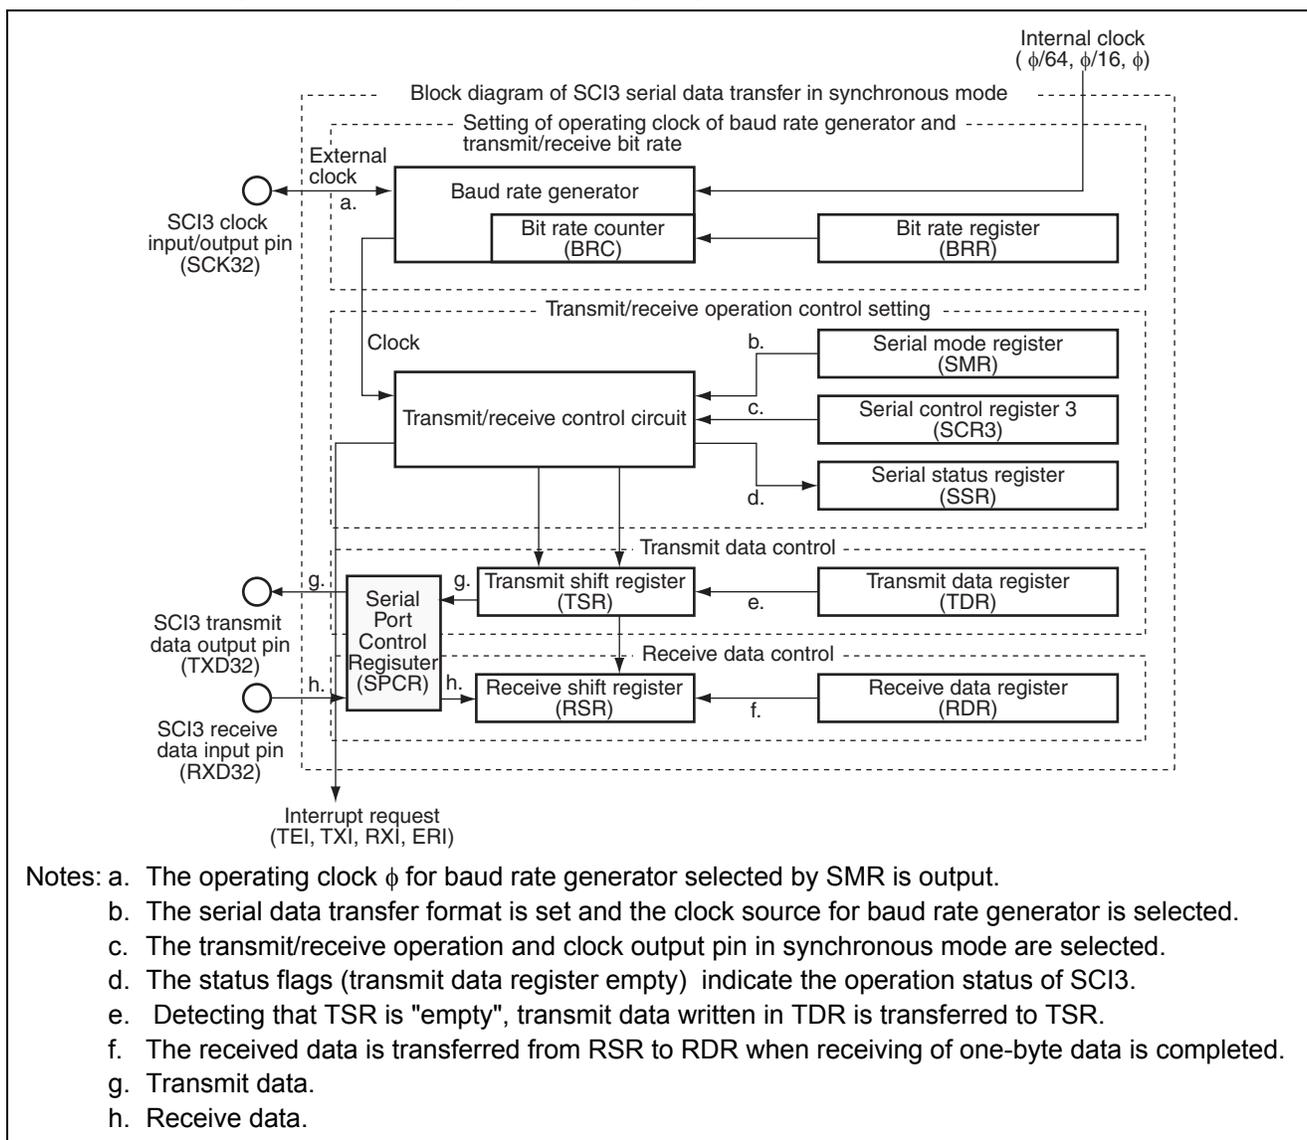

Figure 2.1 Block Diagram of Serial Data Transmission in Synchronous Mode
1. In this sample task, serial data is transmitted in synchronous mode using the Serial Communication Interface (SCI). Figure 2.1 shows a block diagram of serial data transmission in synchronous mode which is described below.